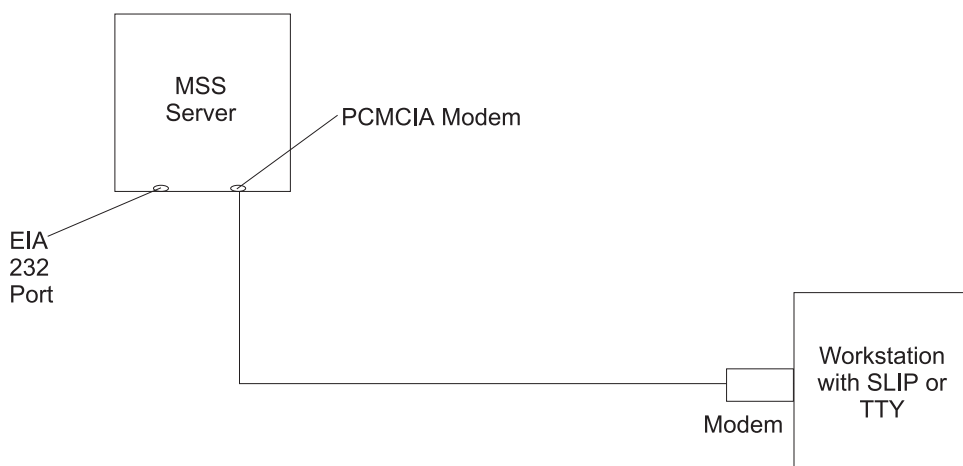

Figure 3-3. Remote Serial Connection to the PCMCIA Modem (Voice/Data/Fax PCMCIA Modem or Data/Fax PCMCIA Modem)
- A remote connection through the PCMCIA modem, the Voice/Data/Fax PCMCIA Modem, or the Data/Fax PCMCIA Modem (see Figure 3-3 on page 3-2).